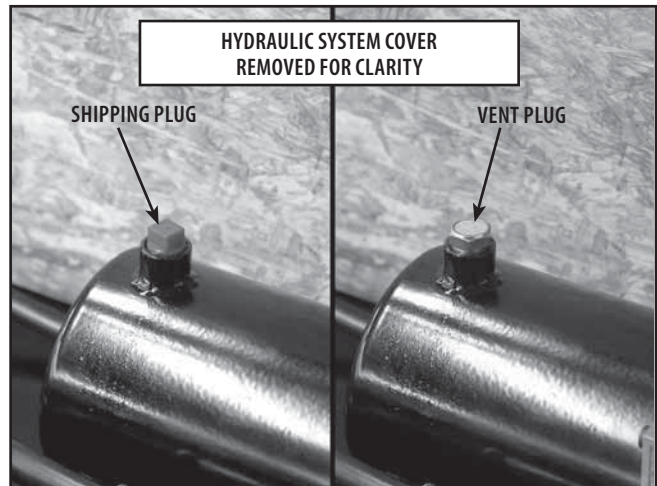

FIGURE 5.17
2. Using the 3/8 in Open End Wrench, remove the Red Shipping Plug from the Hydraulic Oil Reservoir. See Figure 5.17.
4. Install the Vent Plug using the 9/16 in Open End Wrench. Do not overtighten the Brass Vent Plug. Install Vent Plug Access Cap onto cover. See Figure 5.17.